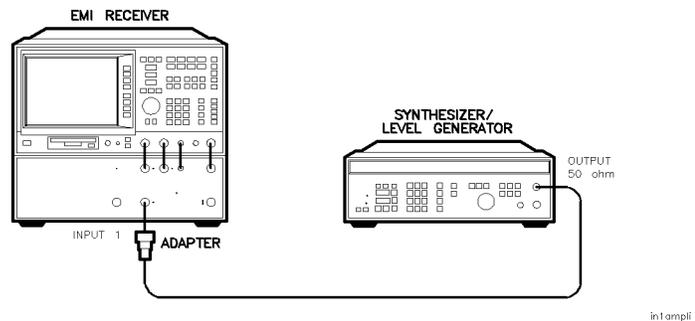

Figure 2-4. Input 1 Absolute Amplitude Accuracy Setup
1. Connect the equipment as shown in Figure 2-4.